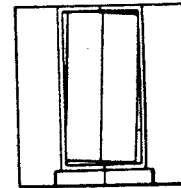

FIGURE 1
- Insufficient Side Clearance of Door and Frame:** - Corner of door contacts frame (Fig. 1) due to top and/or bottom brackets becoming misaligned.